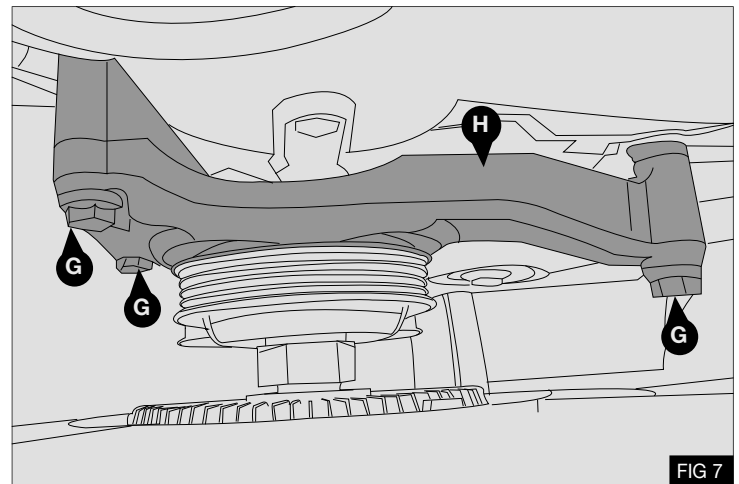

FIG 7
- Remove the original bolts (G) securing the viscous fan bracket (H). Place the supplied stretch belt (6) over the back of the fan bracket (H) and onto the fan pulley. Torque bolts (G) to 50 Nm + 90° using a calibrated torque wrench - Fig 7